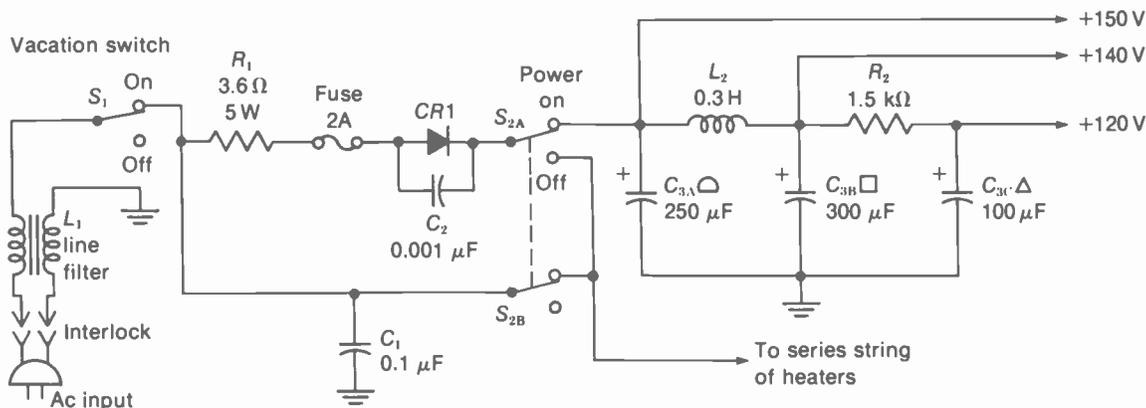

FIGURE 12-11 TYPICAL LOW-VOLTAGE POWER SUPPLY WITH LINE-CONNECTED HALF-WAVE RECTIFIER AND SERIES HEATERS FOR VACUUM TUBES. (GE CHASSIS D2)
In Fig. 12-11,  $CR1$  is the silicon half-wave diode rectifier. The diode is connected to the ac power line through the 3.6- $\Omega$  surge-protective resistor  $R_1$ , a 2-A fuse, and the switch  $S_1$ . With ac input to the anode of  $CR1$ , the positive half-cycles are rectified to produce positive dc output at the cathode. The B+ voltage at the input filter capacitor  $C_{3A}$  is 150 V. A two-section filter is used with the 0.3-H filter choke  $L_2$  and 1.5-k $\Omega$  filter resistor  $R_2$ . The output filter capacitor is the 100- $\mu$ F  $C_{3C}$ , while the 300- $\mu$ F  $C_{3B}$  is the midsection filter capacitor. All three filters are electrolytic capacitors in one can with the half-circle, square, and triangle marks to indicate each section.
Referring to Fig. 12-11, the switches  $S_1$  and  $S_2$  apply power to the receiver.  $S_1$  is the "vacation switch." When the receiver is not used for a long period,  $S_1$  is opened to prevent
**Hash filter.** Interference from motors, neon signs, or any sparking contacts is called *hash* because it does not have a specific resonant frequency. In order to filter any hash interference, either into or out of the power line, the line filter  $L_1$  is used with  $C_1$  as in Fig. 12-11.  $L_1$  is a
**Silicon hum bar.** When the silicon diode conducts, a large pulse of charging current flows in the ac input circuit. You can see this pulse with an oscilloscope across the surge-limiting resistor. The repetition rate of the pulses is 60 Hz. Because of its fast rise time, the pulse can radiate interference into the rf, IF, or video circuits. The result then is a black or white horizontal bar across the picture. This bar can be shifted between top and bottom of the picture by reversing the ac plug. To minimize the interference, a silicon-diode rectifier usually has a 0.001- $\mu$ F shunt capacitor such as  $C_2$  in Fig. 12-11. In addition, a large value can be used for the hash filter capacitor  $C_1$ .